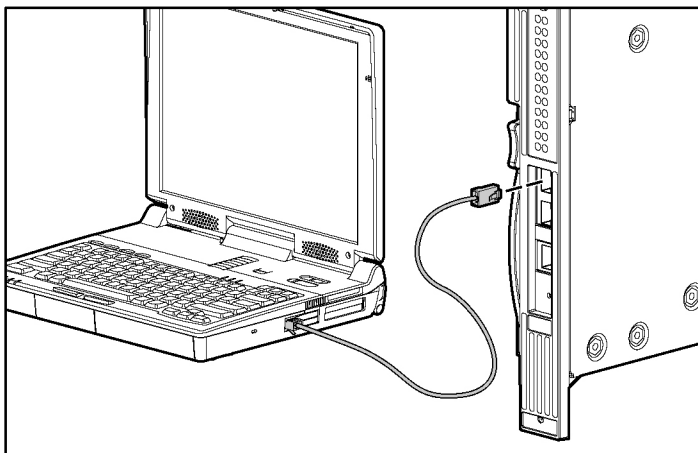

Figure E-4: Connecting the Switch to the PC or Workstation Ethernet Ports
6. Connect a straight-through Category 5 Ethernet cable (not included) to any Ethernet port that is located on the front of the switch as shown in Figure E-4.